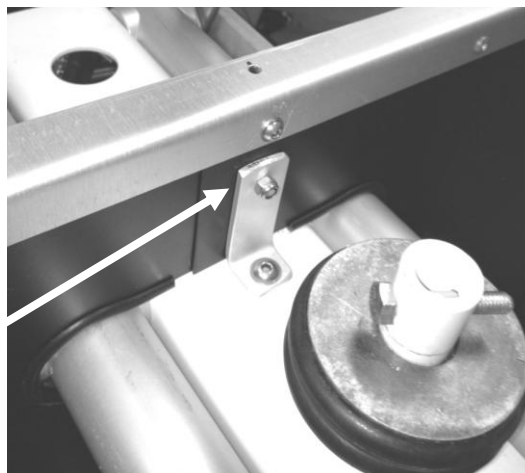

Figure 218 UKMOD firewall, brace to engine mount visible in centre
- j) The firewall support bracket (UKMOD) should be used to brace the firewall to the engine mount immediately in front of the top of the nose-leg, figure 218.